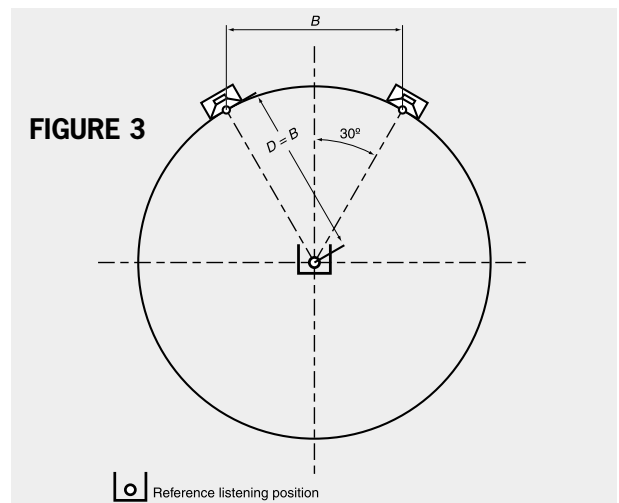

FIGURE 3
5. Next, place the SAT 265s into position. The recommended position for the monitors is based on an ITU standard and sets the speakers at 60 degrees from the listener, forming an equilateral triangle (a triangle with equal sides) - See Figure 3. Fortunately, this setup eliminates most of the math and is easily simplified to the following guidelines: If you want to sit 2 meters from the speakers, place the speakers 2 meters apart. If you want to sit 9 ft. from the speakers, place the speakers 9 ft. apart Etc. Ideally the SAT 265 should be at seated ear height. If this is not possible, tilting the cabinet at the listening area can improve high-frequency coverage. For more information about placement see page 8 [SAT 265 mounting and placement].